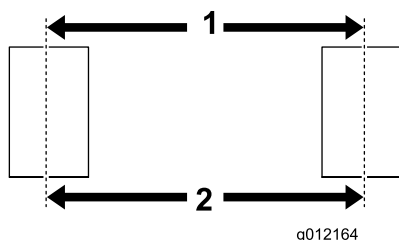

Figure 5
2. Measure the center-to-center distance at the wheel hub height, at the front and rear of the tires (Figure 5).